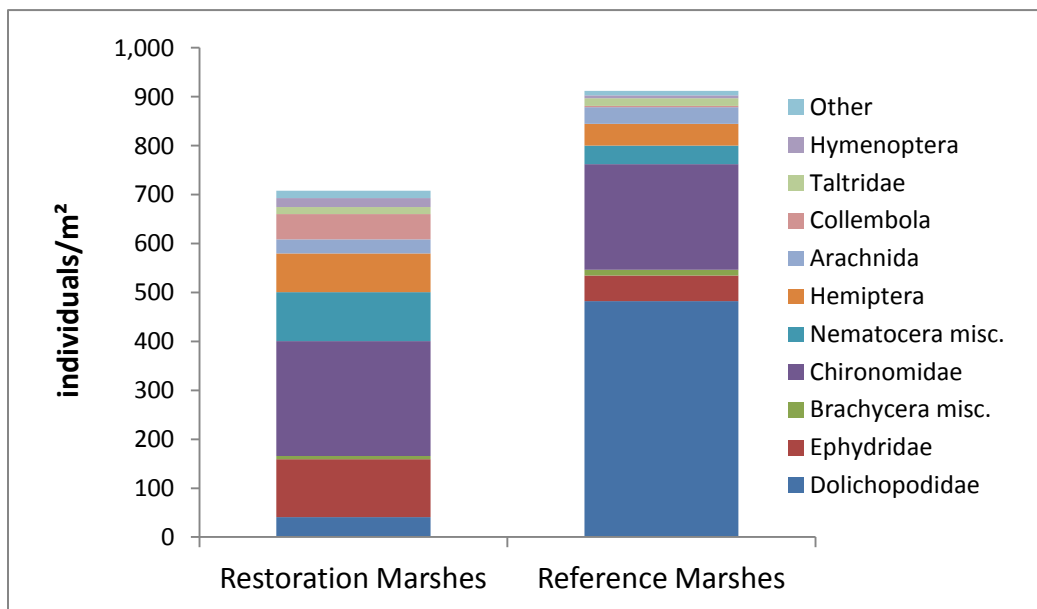

Figure 2. Average density by taxa at restoration and reference marshes in 2010, Nisqually estuary.
2. Comparison of restoration invertebrate composition to reference sites (Figure 2).